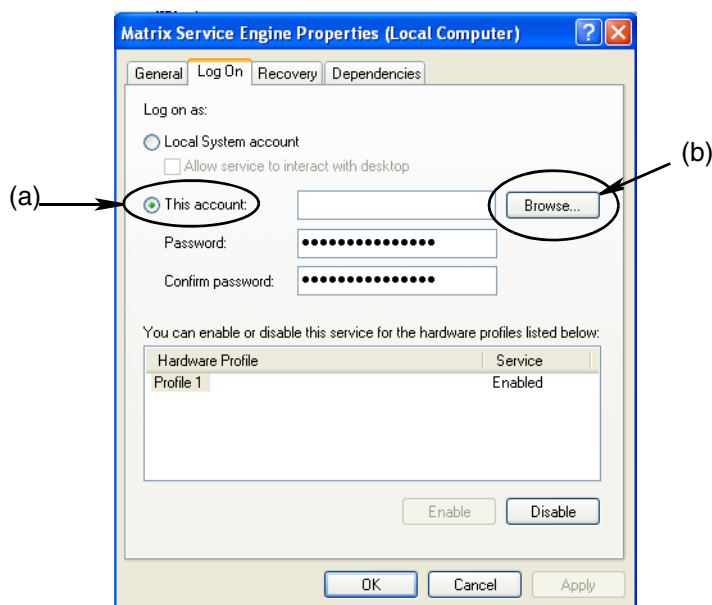

FIG. 58
- f. Select “This Account” (a) (FIG. 58).
- g. Click the Browse button (b) (FIG. 58).
- If the name provided is found, the screen shown in FIG. 58 displays again. Provide the password for your computer. In the Confirm password field type exactly the same password again.